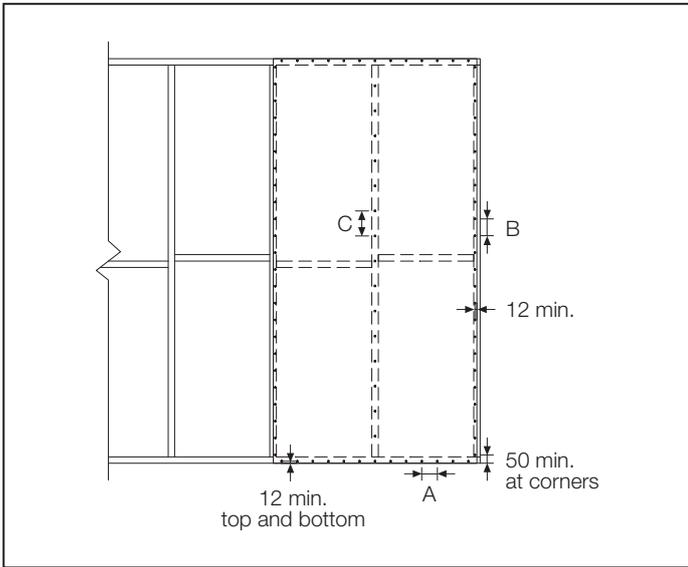

FIGURE 10 SCREW SPACING DETAIL
- Figure 10 and Clause 4.4 for steel framing.